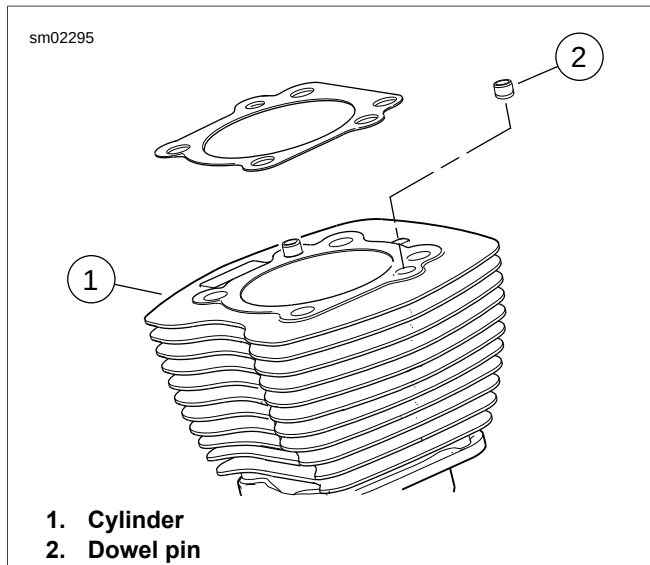

Figure 3-78. Cylinder Dowel Pins
1. See Figure 3-78. With the part number facing up, place the head gasket over the two dowel pins in the upper flange of the cylinder.